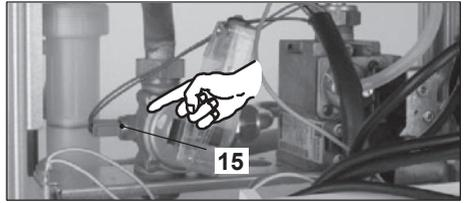

Fig. 8.6
- Disconnect the C.h. temperature probe NTC 15 in Fig. 8.6
- Connect the C.h. temperature probe NTC 15 in Fig. 8.6.